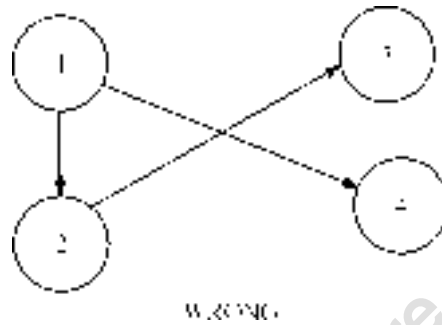

Figure 15.5. Crossing of activities not allowed.
- (c) While writing network, see that activities should not cross each other. And arcs or loops as in figure 15.5 should not join Activities.